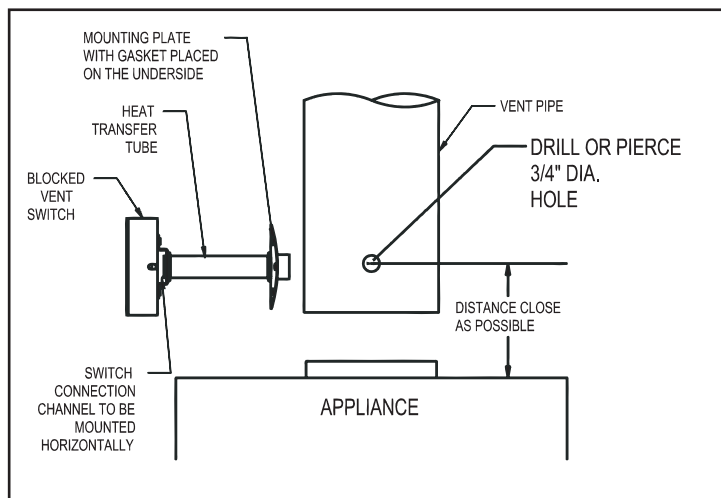

Figure 5
IF THE APPLIANCE MANUFACTURER DOES NOT SPECIFY A LOCATION, REFER TO FIGURE 5.
1. Drill or pierce a clean hole (about $\frac{3}{4}$ " diameter) in the vent pipe near the appliance outlet. (See Figure 5)
4. Secure the assembly to the vent pipe with a minimum of 4 sheet metal screws. The channel must be mounted horizontally, unless specified differently by the appliance manufacturer. (See Figure 5)